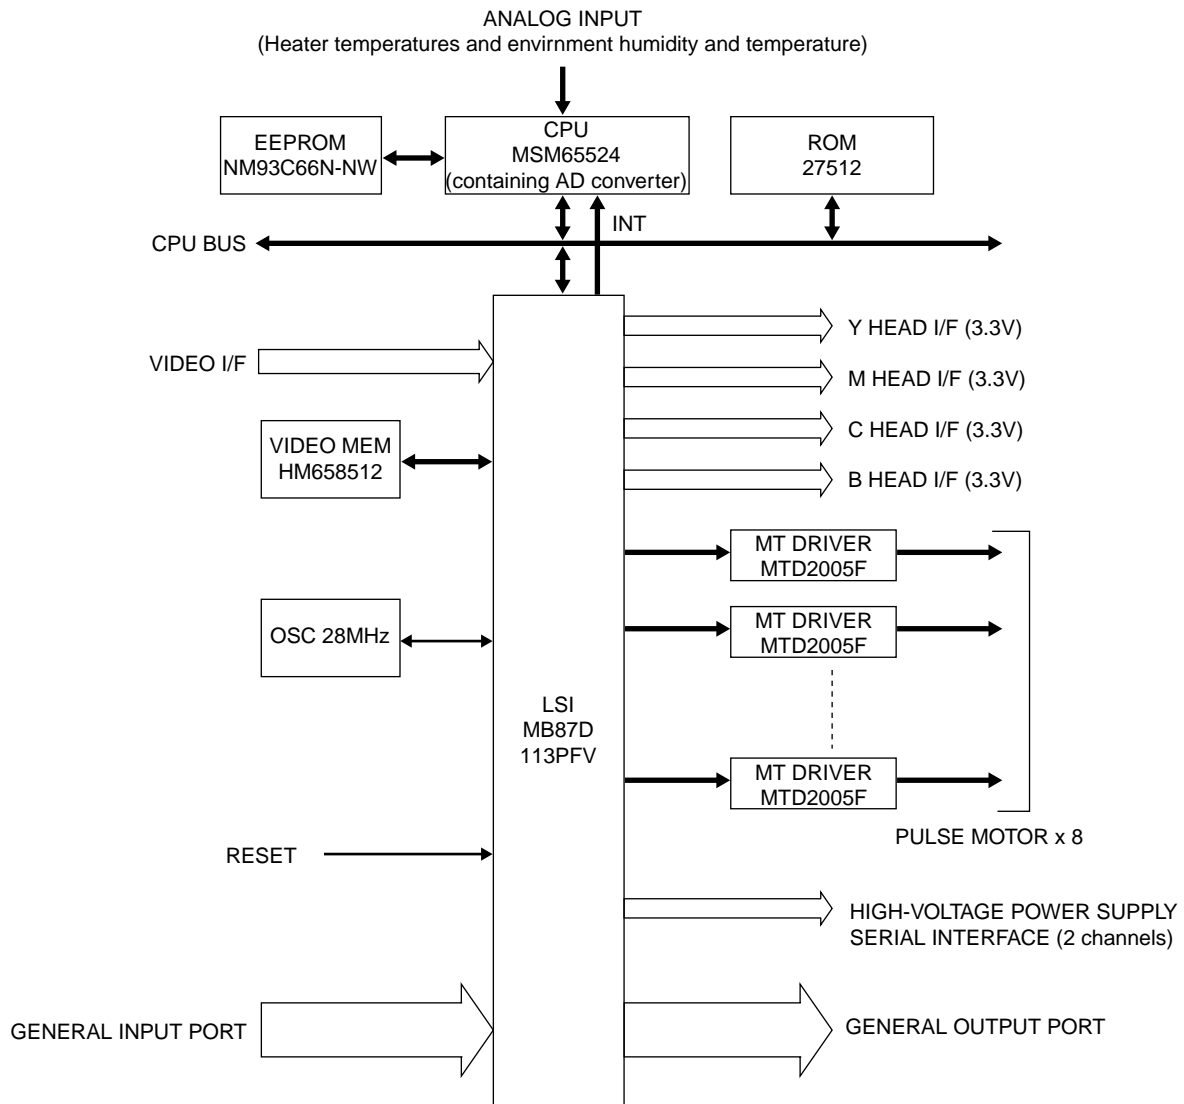

Figure 2.4
The engine control block (PU) is controlled by the engine control board (PX4 PCB) which consists of a CPU (MSM65524), general purpose LSI chips, EPROM, EEPROM, pulse motor drivers, and video memory. (See Figure 2.4.)
- (1) CPU